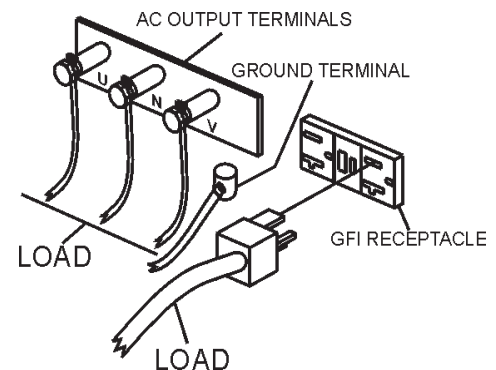

Figure 36. UNV Terminal Lugs (Load)
2. Connect the load to the UNV terminals as shown in Figure 36. These terminals can be found on the output terminal panel, (see page 33 Figure 12). To gain access to the output terminals lift the UNV cover. Tighten terminal nuts securely to prevent load wires from slipping out.